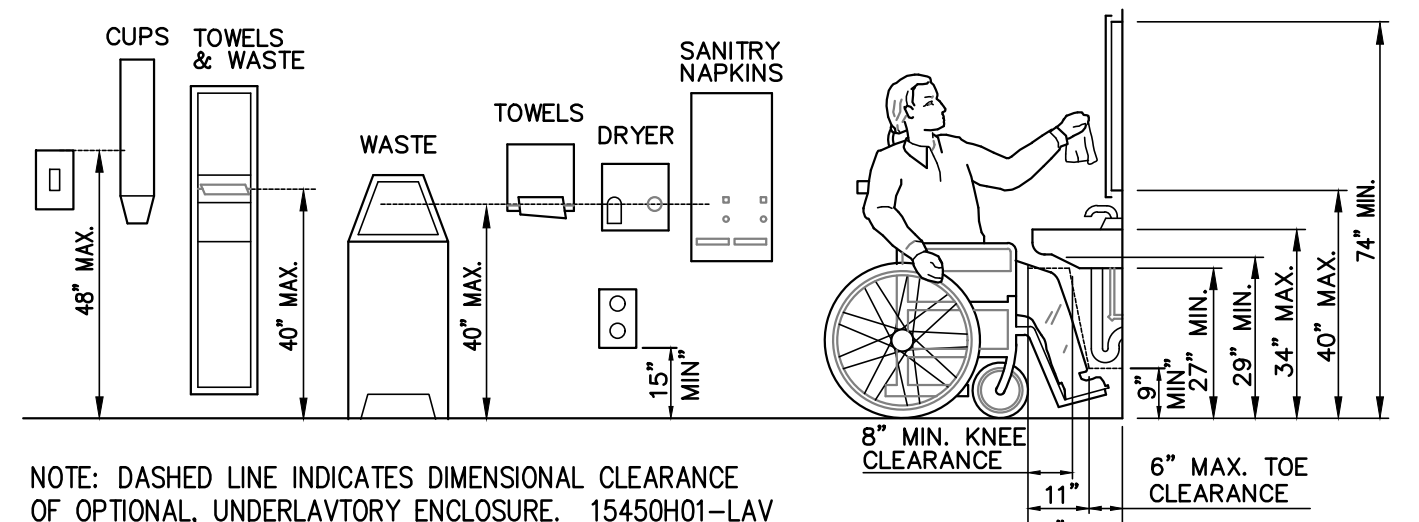

Fig. 1
- DOOR MOUNTED SIGNAGE** (See Fig.1)